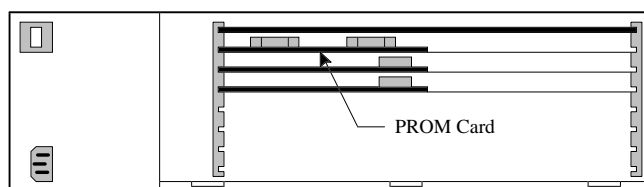

Figure 5 - Location of PROM Card in Computer
4. Remove the PROM Card (see Figure 5) by pulling on the two tabs fastened to the front edge of the card. (Observe standard handling practices for static sensitive components.)